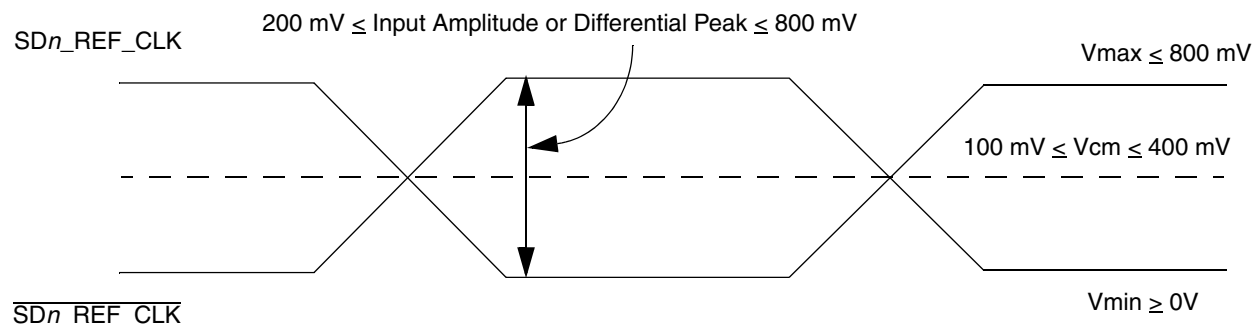

Figure 40. Differential Reference Clock Input DC Requirements (External DC-Coupled)
- For **external DC-coupled** connection, as described in Section 13.2.1, “SerDes Reference Clock Receiver Characteristics,” the maximum average current requirements sets the requirement for average voltage (common mode voltage) to be between 100 mV and 400 mV. Figure 40 shows the SerDes reference clock input requirement for DC-coupled connection scheme.